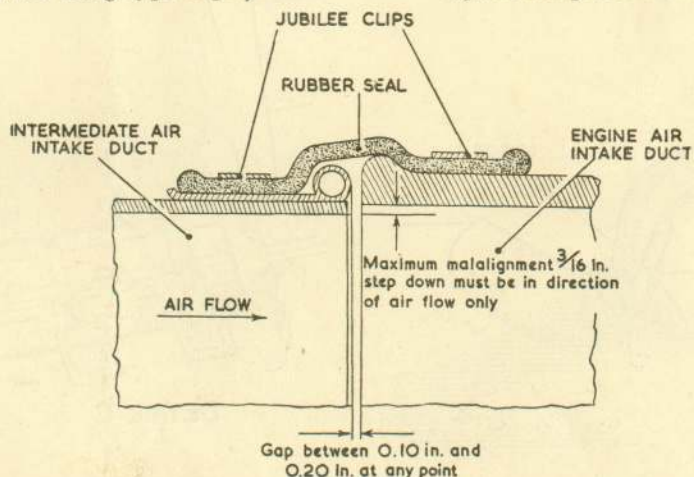

Fig. 13. Alignment of air-intake ducts
- (4) Check the alignment of the air-intake ducts (fig. 13), fit the rubber seals and the large Jubilee clips. Assemble the arresting hook, and check by operating the hook up and down that the engine venturi cuff is located centrally between the 'A' frame. Remove the arresting hook.
- (5) Remove the blanking covers from the starter mounting face on the upper wheelcase, and mount the turbo-starter as detailed in A.P.4320B, Vol. 1.
- (6) Remove the blanking covers from the starter exhaust and emergency outlet flanges, and assemble the exhaust duct with the Heldite gaskets.
- (7) Install the L.P. filter and connect all the services between the power unit and fuselage, remove the two engine change guide plates, re-assemble the four rear upper cowling panel tie-rods and hinge brackets to each rib No. 1.